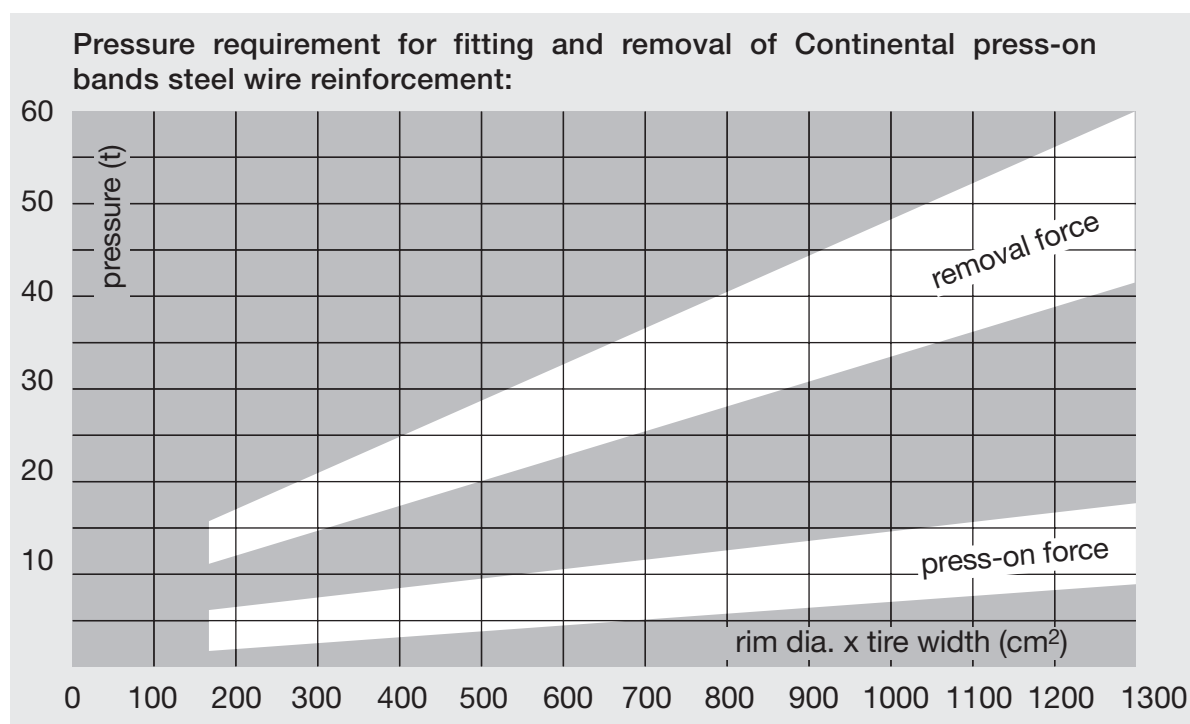

Fig. 1 Expansion ring (C)
- **Expansion ring** (fig. 1), to suit the rim diameter (max. outer dia. = rim dia. + 1 mm). The ring also serves as a support when pressing off the tires. Tires of up to 100 mm in width can be pressed on without using an expansion ring if the rim has a chamfer of less than 30° over at least 3 mm width on the side where the tire is to be pressed on.